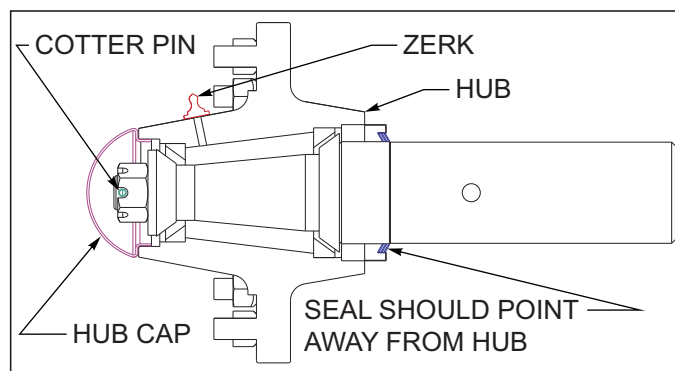

Figure 5-1: Triple Lip-Seal
The triple-lip seals should point away from the hub to keep contaminants out and allow grease to pass See Figure 5-1.
11. Install a new cotter pin and replace the hub cap. *See Figure 5-1.*